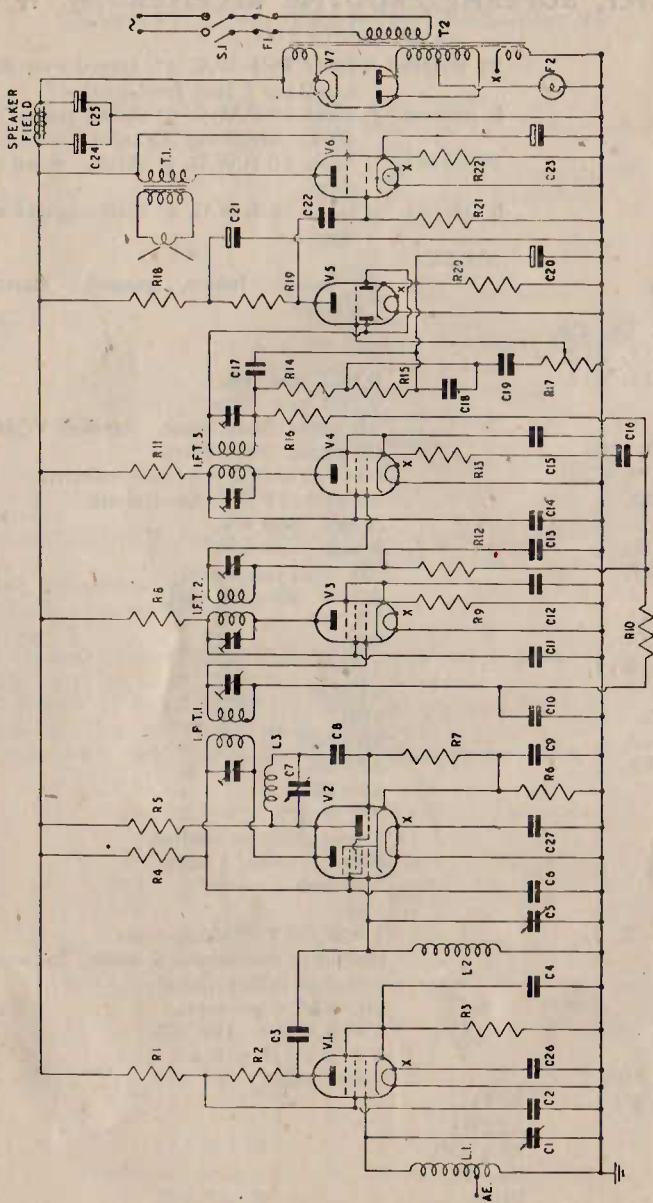

FIG. 19. V.H.F. Superhetrodyne Receiver.
V.H.F. SUPERHETERODYNE RECEIVER—Fig. 19.